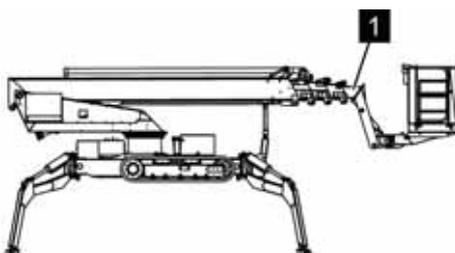

Fig. 136: Securing the boom
2. ▶ Extend the telescopic arm so far that the front boom (Fig. 136/1) can be secured with a belt slip or a trolley.